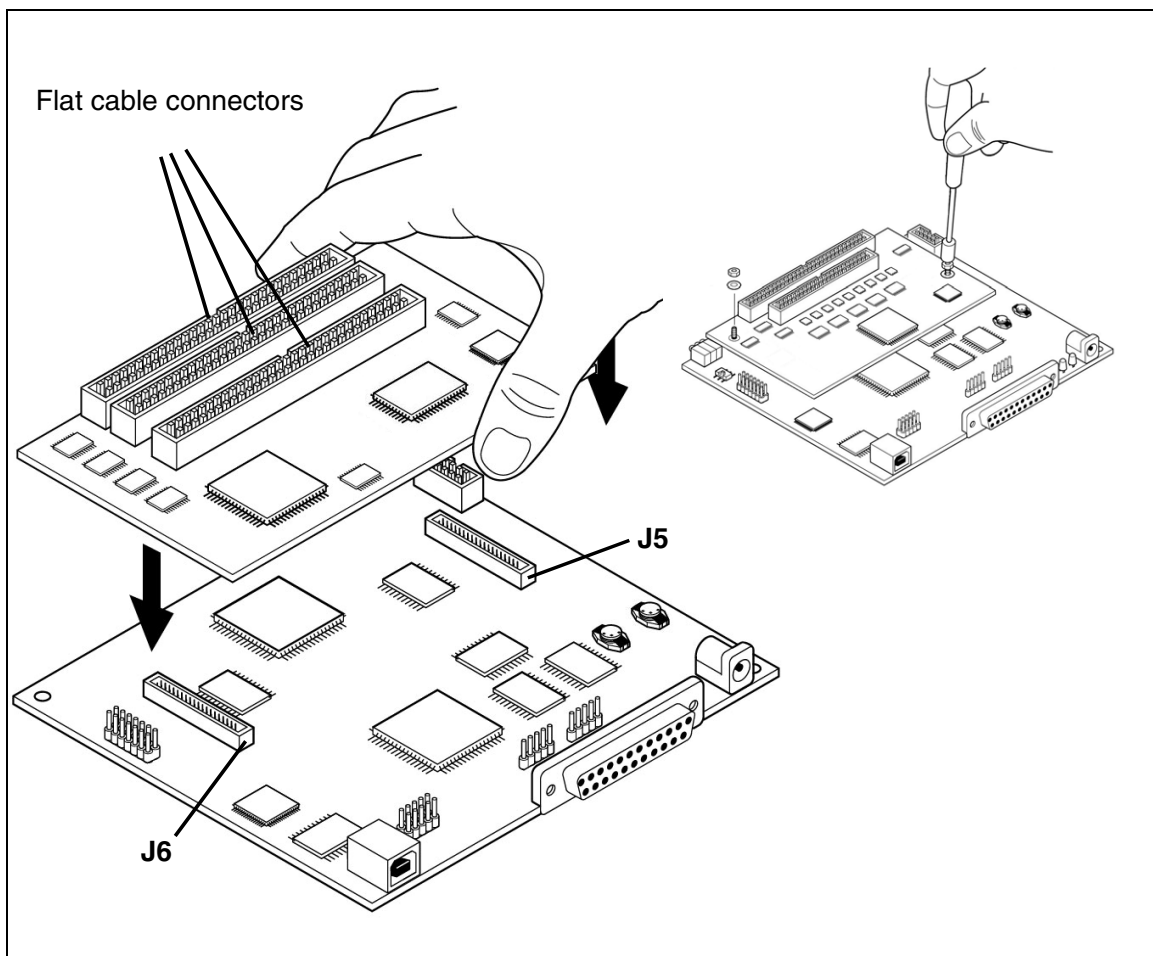

Figure 15: Install the replacement TEB
- 4 Orient the replacement TEB as shown in Figure 15. You can identify the bottom of the TEB by the two 60-pin connectors that link it to the MEB. On top of the
- 6 Secure TEB to the MEB by tightening the two nuts back in place, as shown in Figure 15. Be careful not to overtighten them.